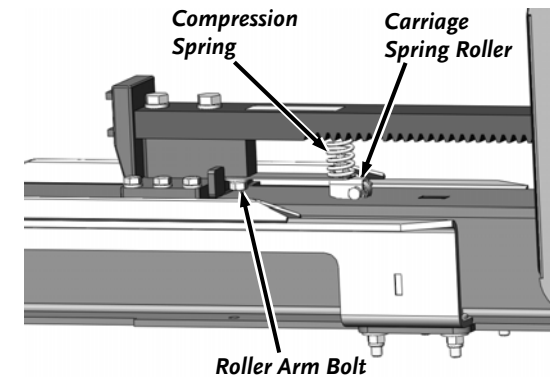

Figure 25
2. Pull the Carriage out approximately half way and loosen the Roller Arm Bolt with a 9/16" Wrench (**Figure 25**).